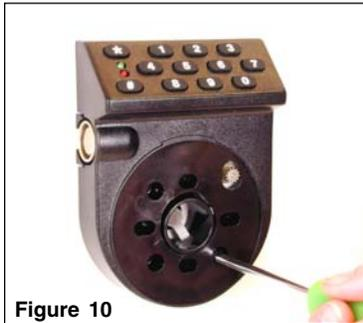

Figure 10
9. Mount the front cover to the keypad/base assembly using the round mounting holes on the cover and the three #6-32 front cover mounting screws. (Torque 14-16 lbs., 1.6-1.8 N-M) (Figure 10)
22. Orient the lip of the dial to the upright position and apply the dial label to the dial. The Kaba logo should be aligned horizontally (Figure 10).